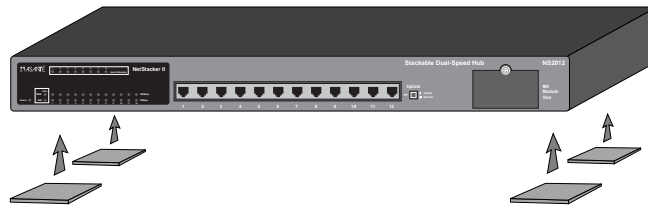

Figure 2-5 Desktop mounting
- 1 Attach the four rubber feet (supplied) to the bottom of each corner on the hub. See Figure 2-5.